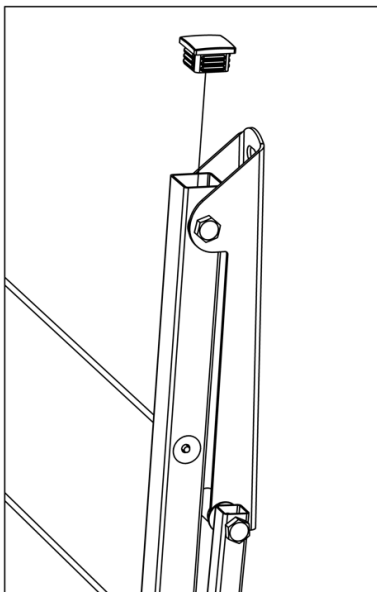

Fig 4. Plastic plugs to arm.
11. Install plastic plugs to back of the arms. (Fig 4)